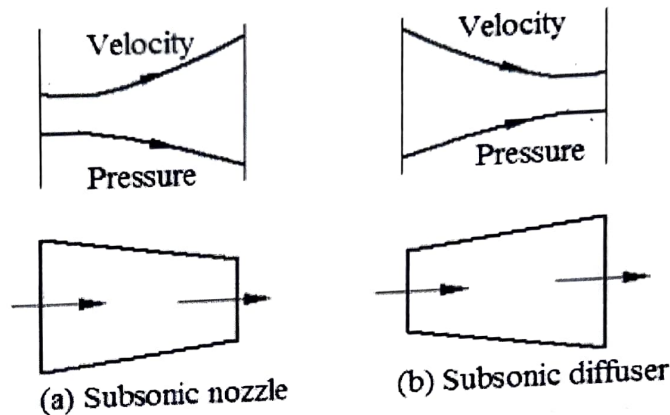

Fig. 3.1 Subsonic nozzle and diffuser
**For subsonic flow ( $M < 1$ )** the quantity  $\left(\frac{1 - M^2}{\gamma M^2}\right)$  is positive. In the nozzle pressure decreases, so the quantity  $\frac{dp}{p}$  is negative; therefore from equation (3.2) the quantity  $\frac{dA}{A}$  is also negative and hence area must decrease for subsonic nozzle in the direction of fluid flow. The shape of the subsonic nozzle (convergent nozzle) is as shown in figure 3.1.
In the diffuser pressure increases, so the quantity  $\frac{dp}{p}$  is positive; therefore from equation (3.2) the quantity  $\frac{dA}{A}$  is also positive and hence area must increase for subsonic diffuser in the direction of fluid flow. The shape of the subsonic diffuser (divergent diffuser) is as shown in figure 3.1.